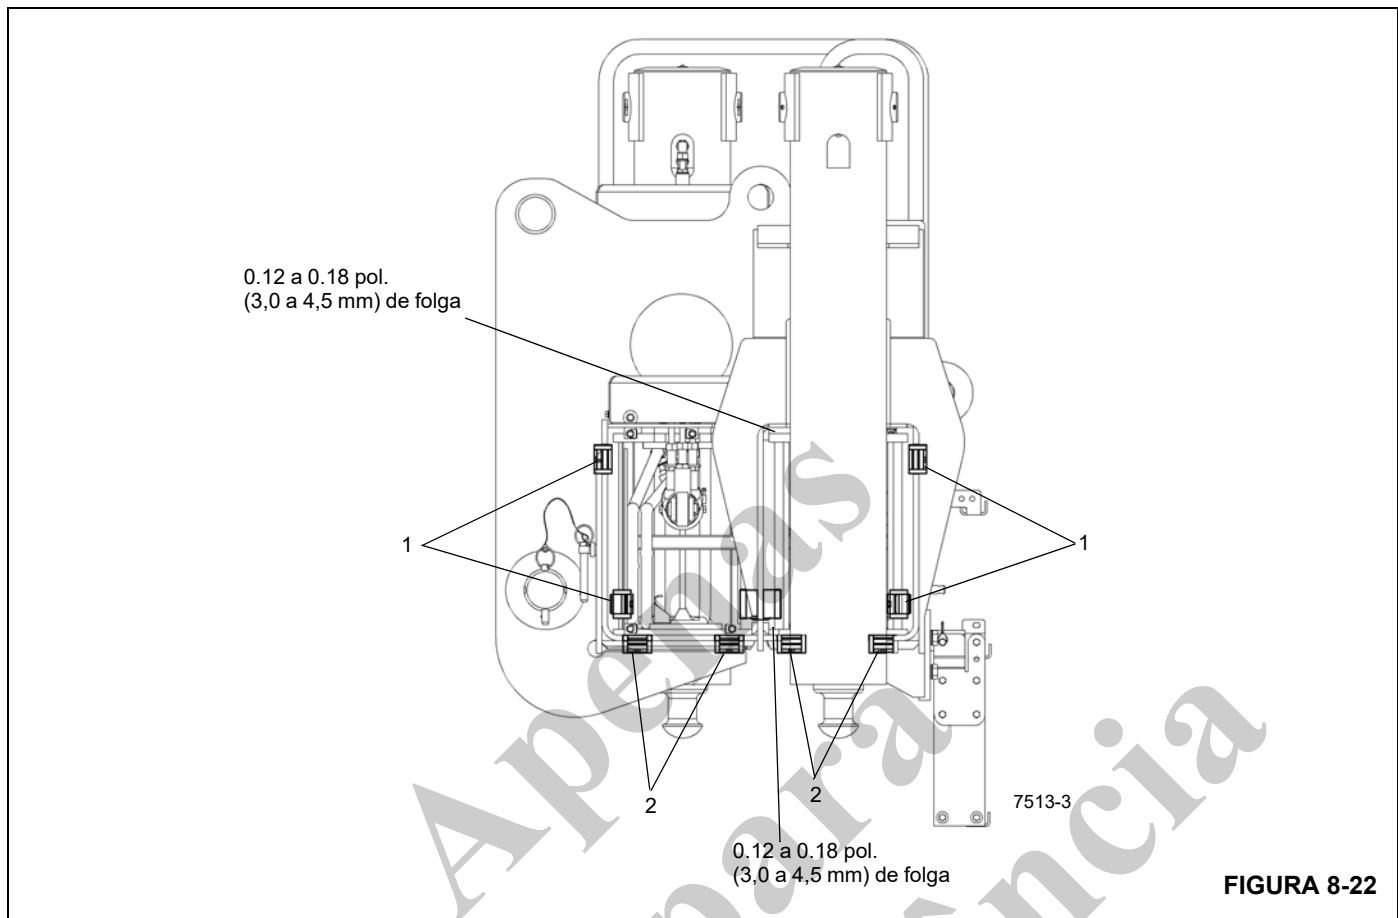

FIGURA 8-22
**NOTA:** Ao ajustar as placas de desgaste, consulte a Figura 8-22.